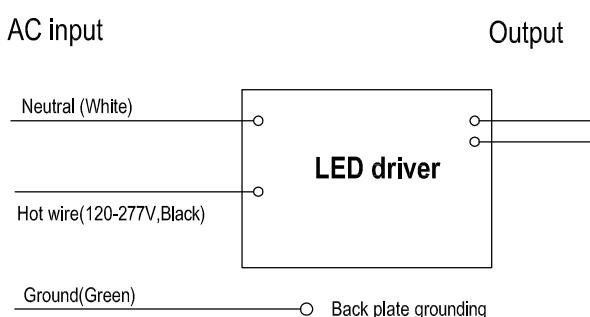

Fig 1
4. Connect the unit wires to building power supply wires using the wire nuts provided. Connect the white wire to neutral, connect the black wire to hot lead(120-277V), feed the wires and wire nuts back into J-box through back plate(see Fig 1).